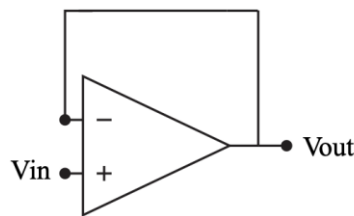

Figure 5.3: A non-inverting amplifier configured as a unity gain buffer.
There is also a special case of the non-inverting amplifier where it is connected as a voltage follower or unity gain amplifier as show in Figure 5.3.
4. Using the voltage follower configuration in Figure 5.3, run a DC operating point simulation (.op) and determine the V_{out} when V_{in} is zero volts; effectively calculating the offset voltage, table the value.
1. Using the voltage follower, Figure 5.3, input a 0 V DC voltage from the Wavgen and record the offset voltage. Choose an appropriate voltage scale, the voltage is on the order of mV. Save a screenshot of the waveform scope.
2. Using the voltage follower again, Figure 5.3, input a 0.5 V amplitude square wave with a 0.5 V offset from the Wavegen. Set the appropriate trigger and determine the slew rate in V/us. Save a screenshot of the waveform scope.